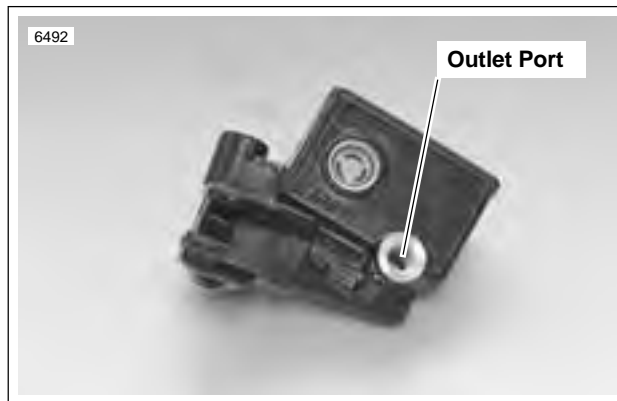

Figure 2-34. Master Cylinder Body
See Figure 2-34. Verify proper operation of the master cylinder relief port. A plugged or covered relief port can cause brake drag or lockup, which could result in loss of vehicle control and death or serious injury
7. See Figure 2-34. Verify proper operation of the master cylinder relief port.